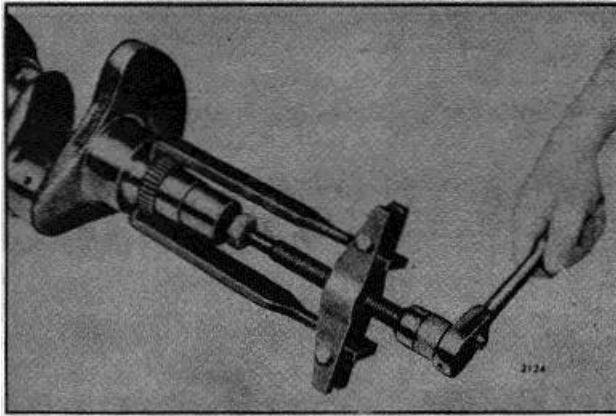

Fig. 7 - Removing Oil Pump Drive Gear pump body. Since the holes are offset, the cover plate
1. Thread the crankshaft pulley retaining bolt in the end of the crankshaft (Fig. 7).